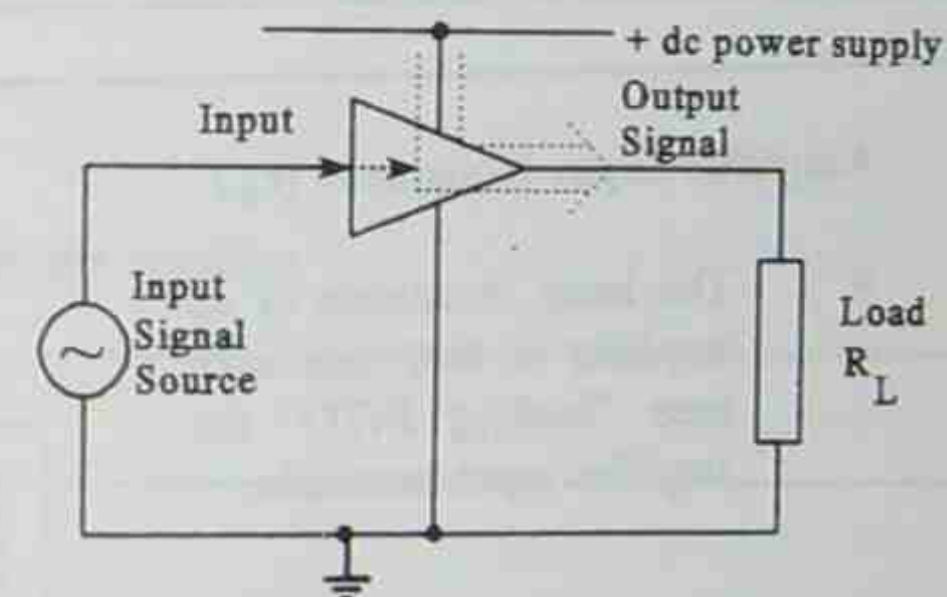

Figure 3
- The amplifier input signal is used to control the amount of power delivered from the d.c. supply to the output as shown in Figure 3.